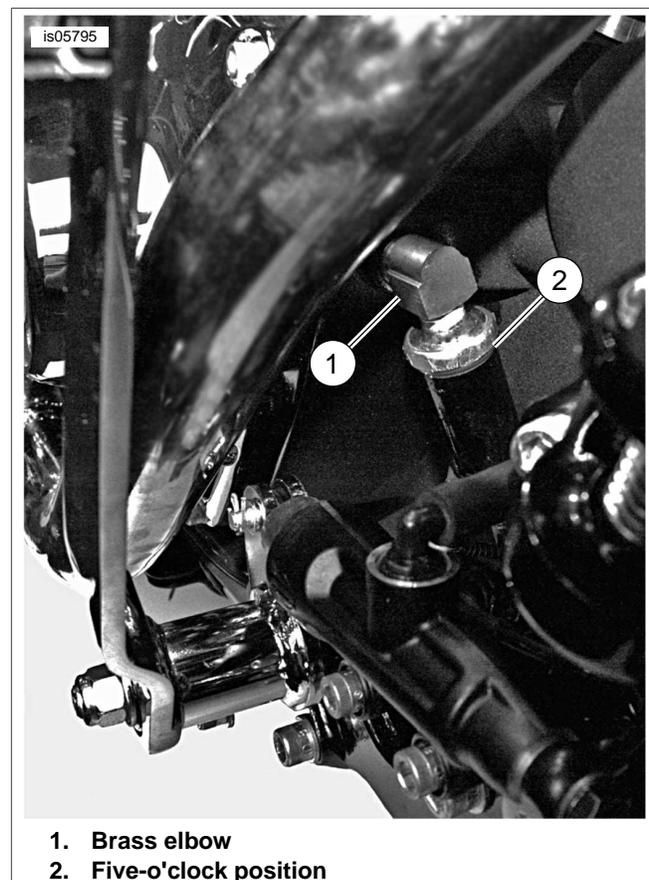

Figure 2. Relocate Oil Pressure Sensor
Perform this procedure on all models equipped with an oil pressure gauge or large gauge style sending unit (as shown in Figure 2). All other models proceed to "Master Cylinder Assembly/Rear Brake Pedal Modification."
5. See Figure 2. Install elbow (1) until snug so open end is in the five-o'clock position (2). Do not over-tighten or crankcase may be damaged.